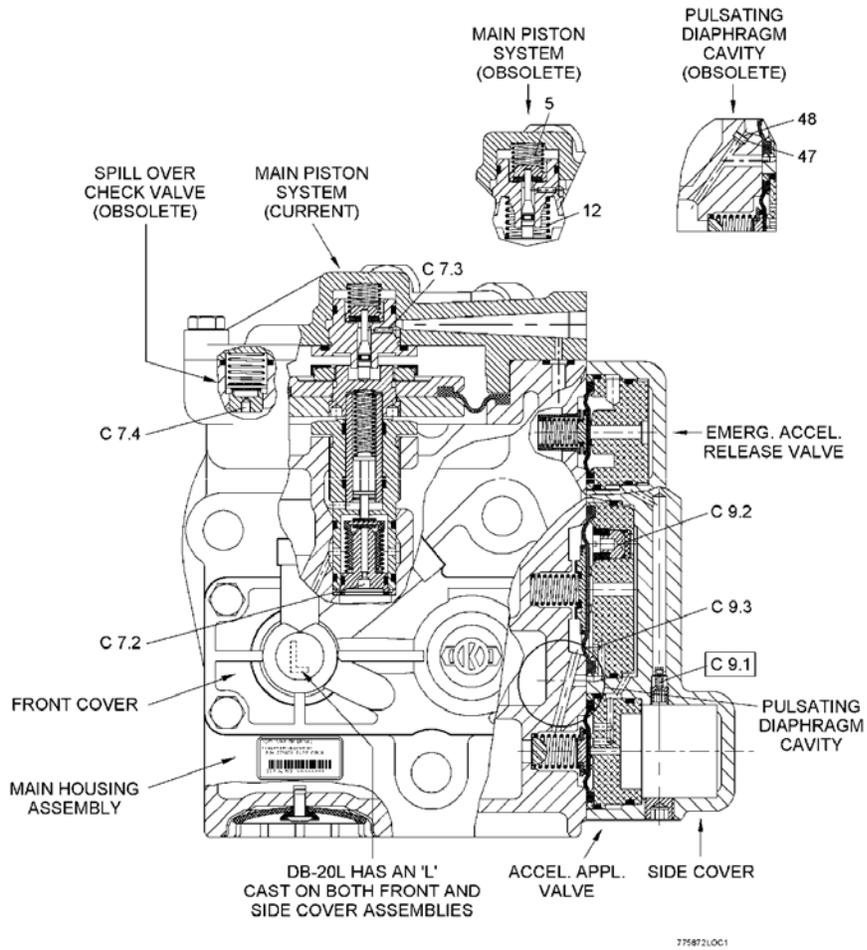

Figure 6-2 DB20 and DB20L Emergency Portion (Assembly View)
**Replace with:** New Bushing with choke (27).
**If Present:** O-Ring, Spring and Check Valve (Spillover Check Valve). (Refer to Figure 6-2 and Figure 11-1, bored hole Ref. No. 74)